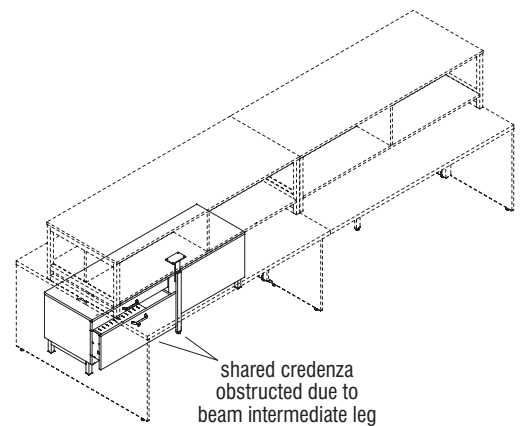

Figure 24
- Beam intermediate legs will prevent the placement of freestanding shared credenzas centered under the beam to make it accessible from both sides (Figure 24).